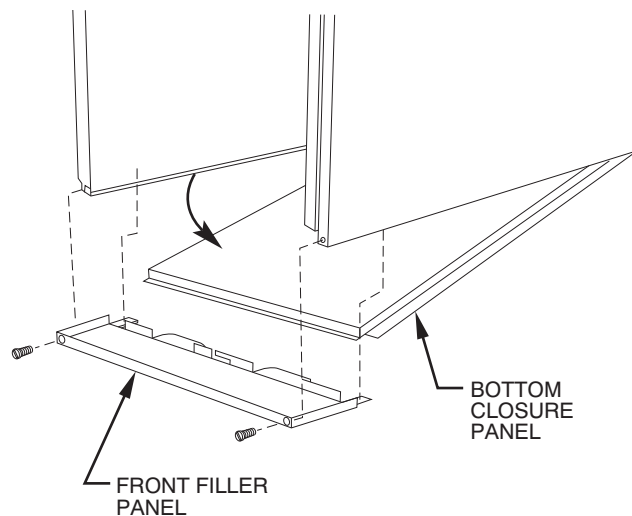

Fig. 24 - Bottom Closure Panel
2. Remove bottom closure panels from both furnaces. (See Fig. 24.)